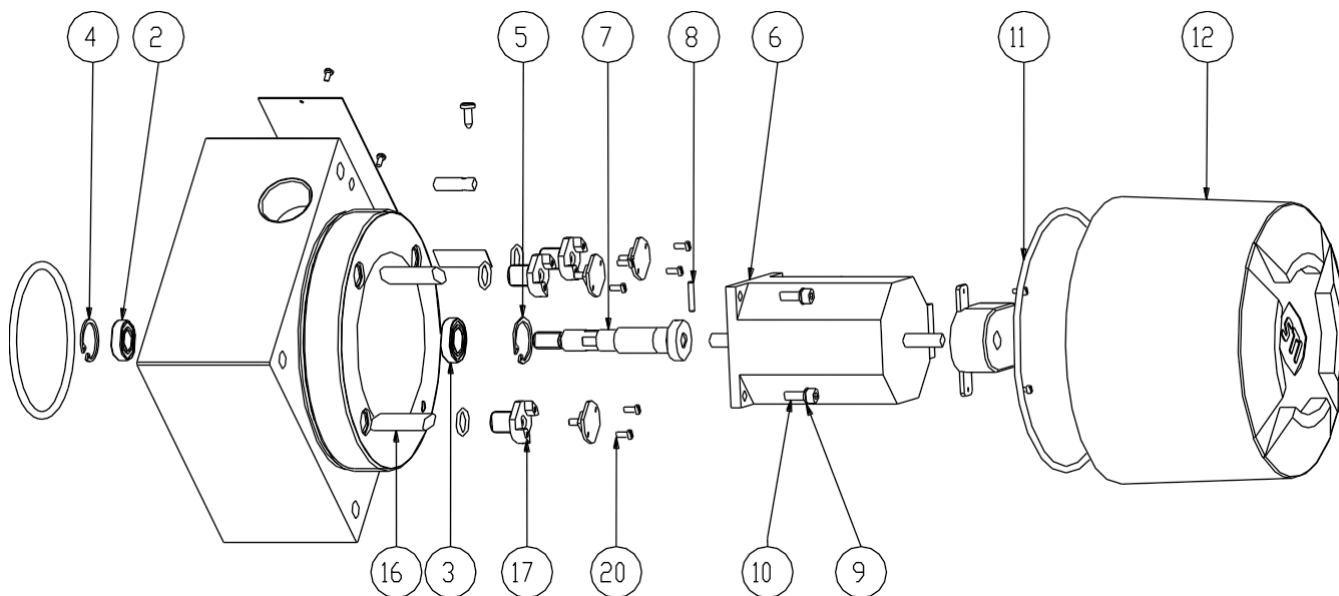

fig. 4 – Motor enclosure components
**Do not remove the cylindrical joints before start up and during operation it must be ensured that all the three pressure transducers are correctly fixed inside the enclosure pos. 16 fig. 4 for any reason otherwise the flame proof gap is compromised.**